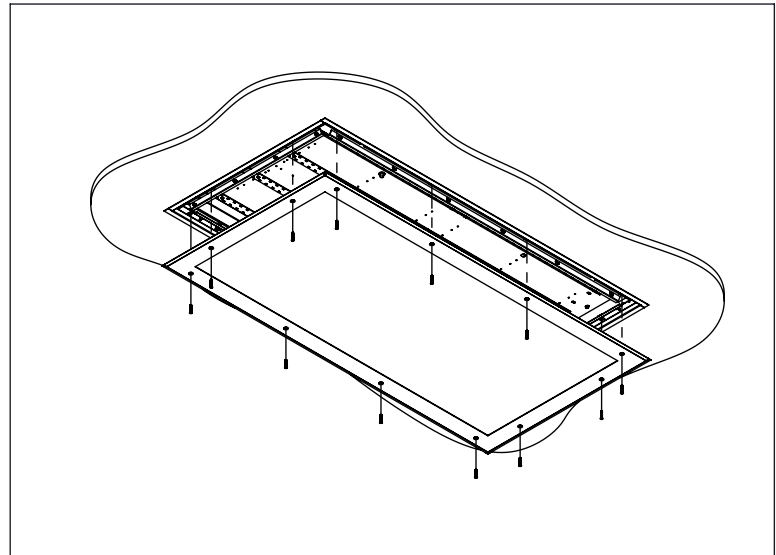

Figure 6
7. Reattach frame and fasteners (Fig. 6).